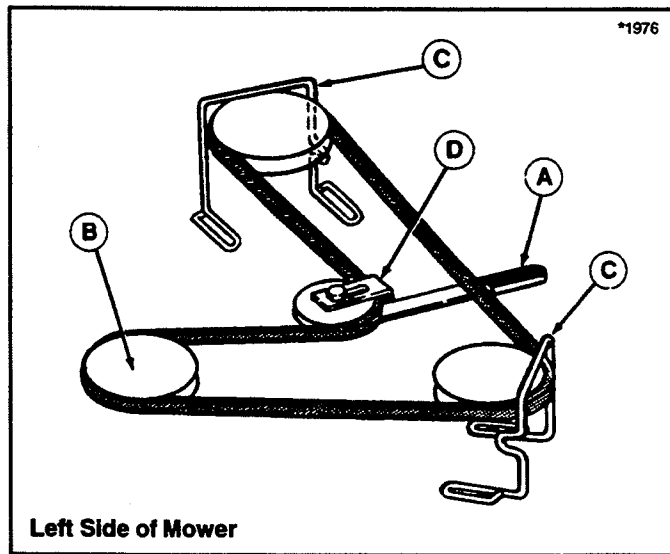

Figure 43. Mower Belt - 38"
3. See figure 43. Push the idler arm (A) away from you to relieve belt tension. Drop belt from the PTO (electric clutch) pulley.
4. Loosen bracket belt stop (D) on idler pulley.
6. Position the bracket belt stop (D) up against arm (A) so that there is a 1/8" gap between pulley and belt stop.
7. Tighten the belt stops (C) on arbor drive pulleys with 1/8" gap between stops and pulleys.